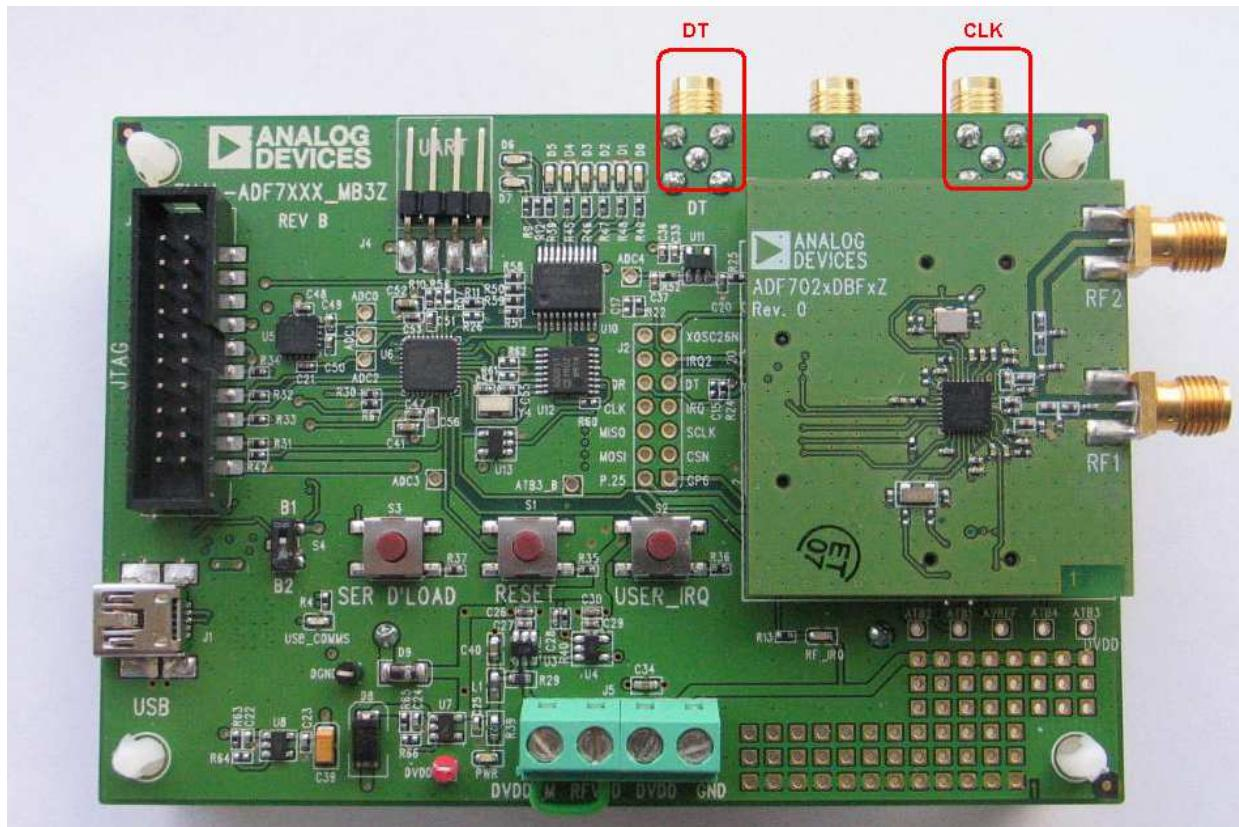

Figure 30
- While in ***PHY Tx*** with SPORT mode enabled, the transmitted data must synchronized with the output clock seen on the **CLK SMA connector** on the mother board as shown in (*Figure 30*)
- The Tx data line, from the users Tx device, should be connected to the **DT SMA connector** as shown in (*Figure 30*).